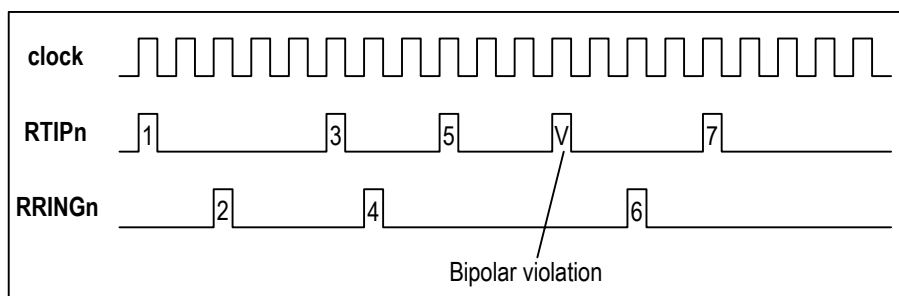

Figure 6. AMI Bipolar Violation Error
1. Bipolar Violation (BPV) Error: When AMI line code rule is used, the BPV error will be detected if two consecutive pulses are received with the same polarity (refer to Figure 6). The event of the Bipolar Violation (BPV) Error is forwarded to the Performance Monitor.
2. B8ZS Code Violation (CV) Error: When B8ZS line code rule is used, a CV error is detected when the received code does not match the standard B8ZS line code pattern (expect the Excessive Zero error).